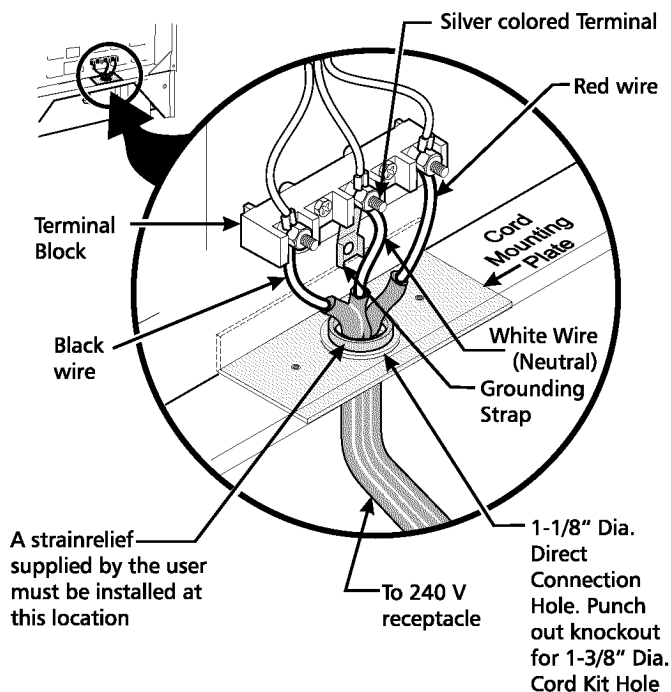

Figure 3
NOTE: Electric Slide-in Range is shipped from factory with 1-1/8" dia. hole as shown on figure 3. If a larger hole is required, punch out the knockout.
(The 3-conductor cord or cable must be replaced with a 4-conductor cord or cable where grounding through the neutral conductor is prohibited in new installations, mobile homes, recreational vehicles or in other areas where local codes do not permit neutral grounding) If local codes permit connection of the frame grounding conductor to the neutral wire of the copper power supply cord (see Figure 3).
4. Replace the 3 nuts on the terminal block (see figure 3).